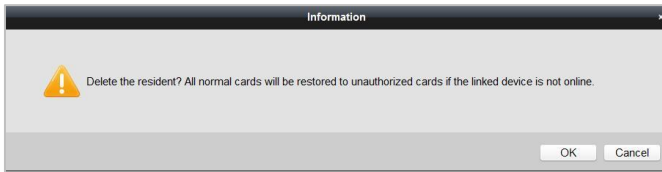

Figure 9-15 Group Deleting Interface
1) On the resident/other card issuing interface (Figure 9-15, Figure 9-17), select a community group or an Other group.